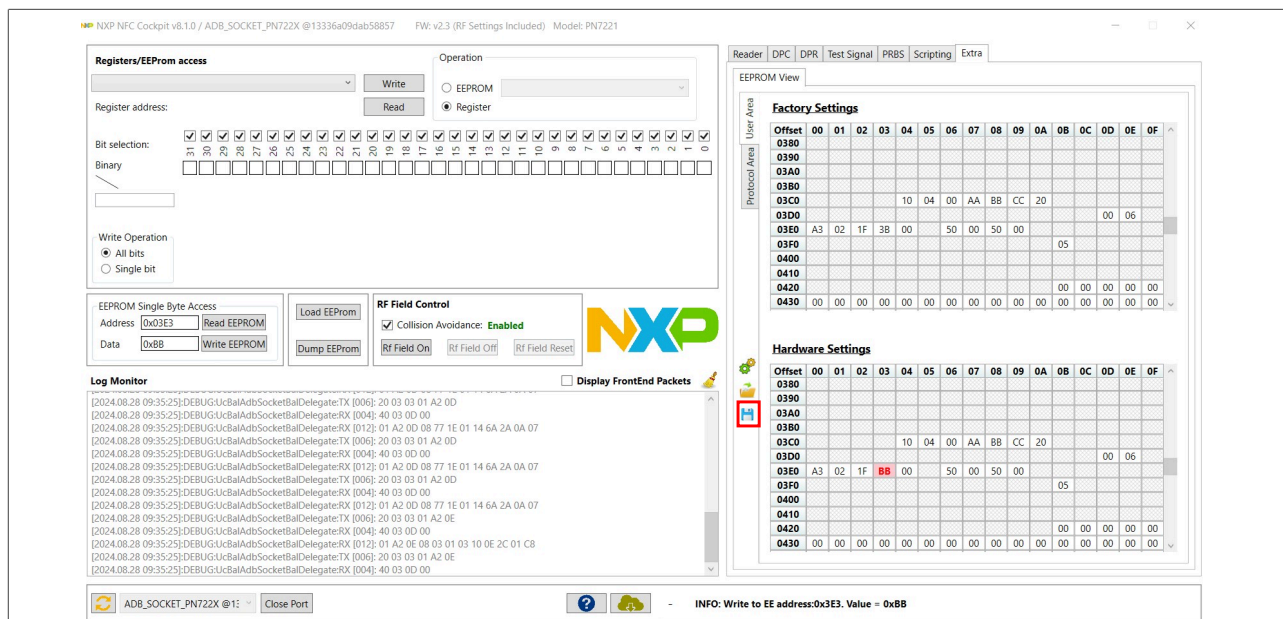

Figure 5. Save changes
4. Users can save the configuration with the "Save" button (see Figure 5) and name the configuration file as *libnfc-nxp-rfExt.conf*.